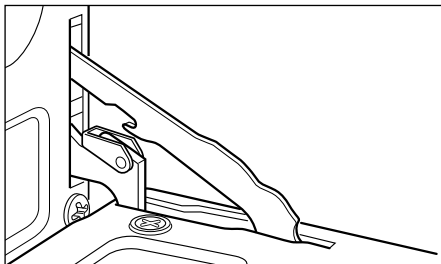
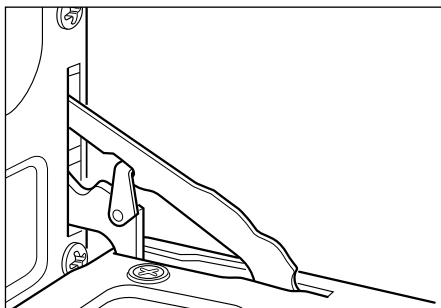

Fig.44a
Fig.44b
- 2 Hook the swivel retainers of the right-hand and left-hand hinges (Fig. 44a) onto the metal bar above them (Fig. 44b).